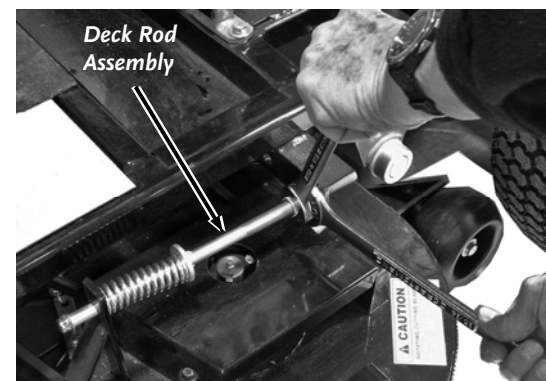

Figure 16
- Using two 3/4" Wrenches, loosen the two Adjusting Nuts of the Deck Rod Assemblies on each side of the Deck (Figure 16).
1. To adjust the Engine to Deck Drive Belt tension, loosen the two Adjusting Nuts on the Deck Rod Assemblies (**Figure 16 on page 19**). Turn Rear Nut clockwise to tighten the Belt. For recommended tension, compress the Drive Springs to approximately 3-1/8" on both sides of the Deck.
4. Loosen the Deck Rod Assemblies (**Figure 16 on page 19**) on each side of the Deck.